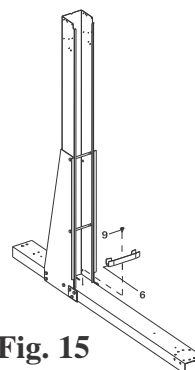

Fig. 15
E) Once all of the 5" long bolts have been tightened, install the straight side bottom connectors. This is done by placing the connector on top of the strap end channel just inside the straight side upright. The hole in the connector should line up with the hole in the strap end channel. Secure the connector to the channel using a single # 12 x 3/4" screw for each as shown in Fig.15.